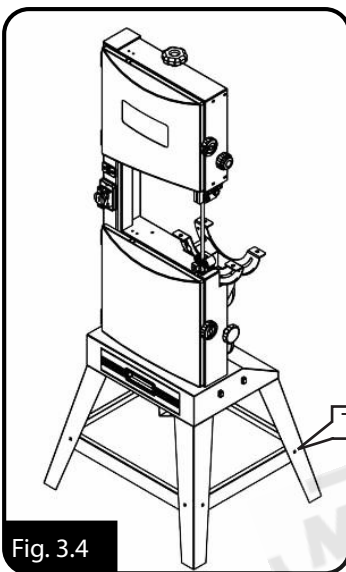

Fig. 3.4
- ☐ Stand the band saw on a level ground, then tighten all bolts and nuts. (Fig. 3.4)